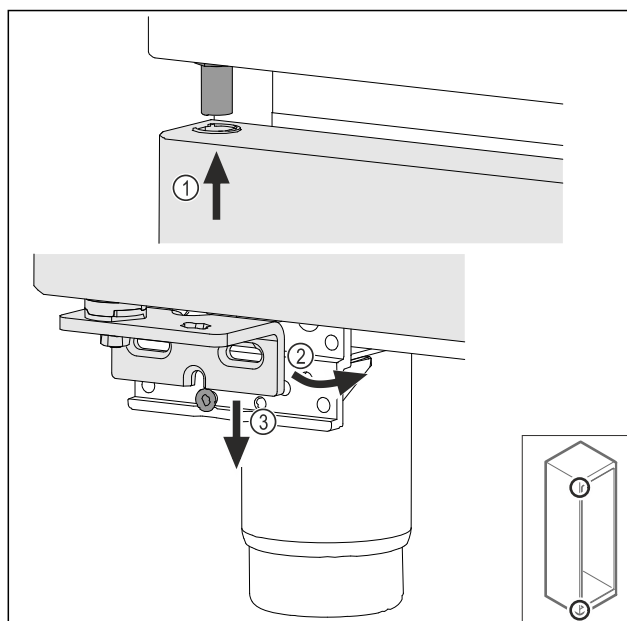

Fig. 34
- Insert the door slightly tilted at the top Fig. 34 (1), align the door straight Fig. 34 (2) and place it on the bottom of the swap bearing block screw Fig. 34 (3).